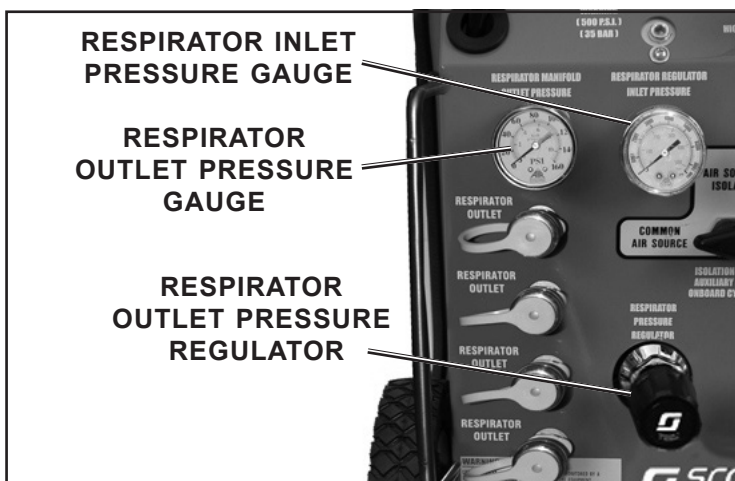

FIGURE 10
- b) Slowly open the cylinder valve allowing the pressure indication on the RESPIRATOR INLET PRESSURE GAUGE to slowly increase to the full supply pressure. The low pressure warning alarm whistle shall actuate momentarily until the supply pressure increases beyond 1000 psi. See FIGURE 10.
5. Refer to TABLE 1 for Limitations and Operating Instructions for the various hoses used to supply respirators. Refer to FIGURE 10 to identify the hose connectors available. There are specific restrictions regarding maximum length and/or number of hose segments that may be used to supply breathing air to respirators.
- b) Make sure the couplings are operated properly. See TABLE 1 and FIGURE 10.